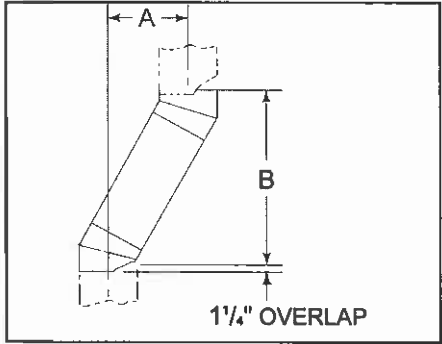

Figure 5 - Chimney Offset/Return
- 1) Measure how far the chimney needs to be shifted to enable it to avoid the overhead obstacle. See Figure 5, dimension "A" to determine chimney sections required to achieve the needed shift.
**Example:** Your "A" dimension from Figure 5 is 141/2". Using Table 1 the dimension closest to, but not less than 141/2" is 145/8" using a 30° offset/return. It is then determined from the table that you would need 33" (Dimension "B") between the offset and return. The chimney components that best fit your application are two SL1112s.